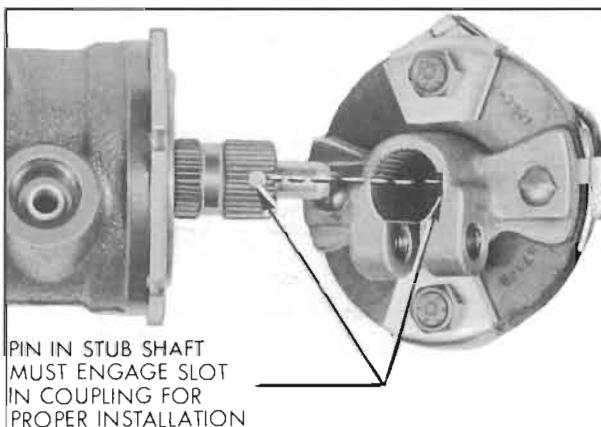

Figure 8-26—Installing Lower Flange on Stub Shaft
7. Align groove in lower flange with pin extending from stub shaft and install flange. See Figure 8-26. Center bolt hole on flange with groove on stub shaft. Install pinch bolt and tighten to 30 ft. lbs.
5. Align groove in lower flange with pin extending from stub shaft and install flange. See Figure 8-26. Center bolt hole on flange with groove on stub shaft.